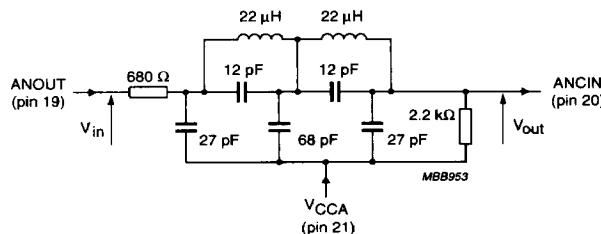

Fig.12 Example of lowpass filter for Y and C signals.
- (1) It is recommended to decouple V_{CCO} through a $22\ \Omega$ resistor especially when the output data of TDA8709A interfaces with a capacitive CMOS load device.
- (2) See Figs 12 and 13 for filter examples.
Note to figures 12 and 13